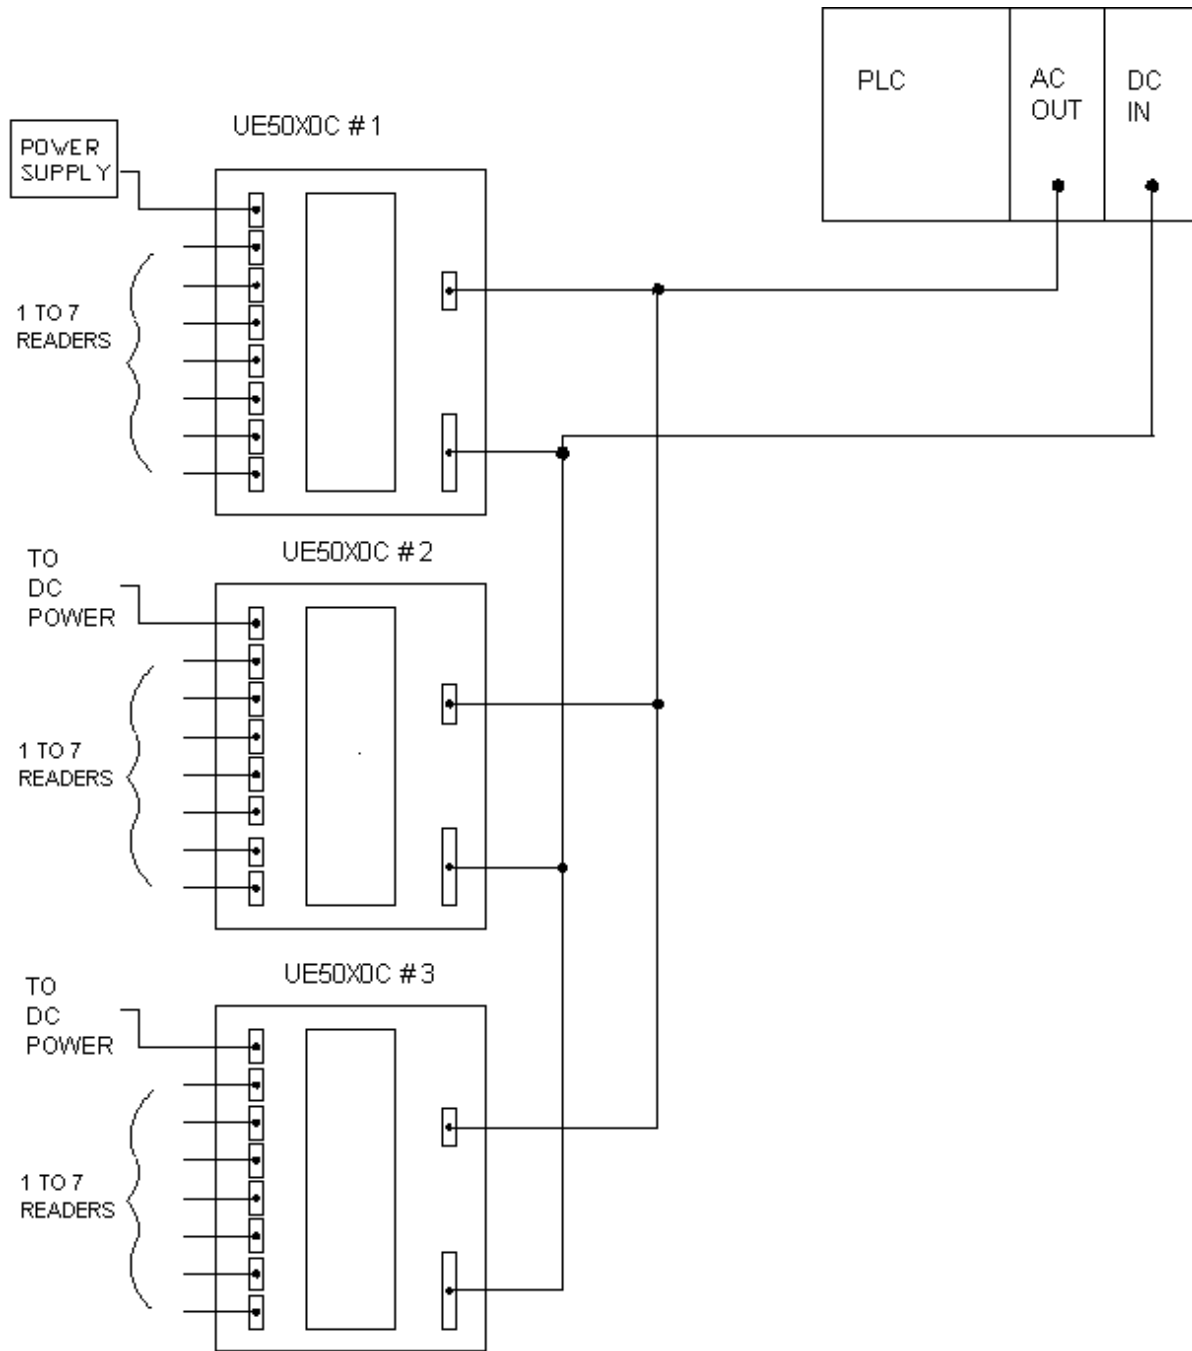

Figure 2.4.1 Multiplexed Concentrator System
Multiple UE5050C concentrators can be connected to a PLC using only a single DC input card and a single AC output card. Figure 2.4.1 shows three (3) UE5050's connected to a single DC input card; however, up to 16 concentrators can be connected depending upon the load characteristics of the DC input module.